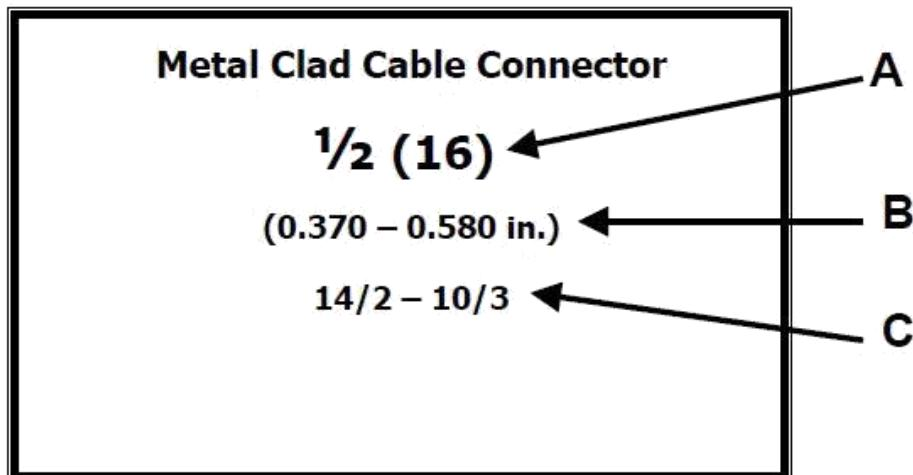

Figure 1
Trade Size (Metric Designator) example: $\frac{1}{2}$ (16) [See A of Figure 1.]
Diameter Range example: 0.370 – 0.580 in. [See B of Figure 1.]
Conductor Range example: 14/2 – 10/3 [See C of Figure 1.]